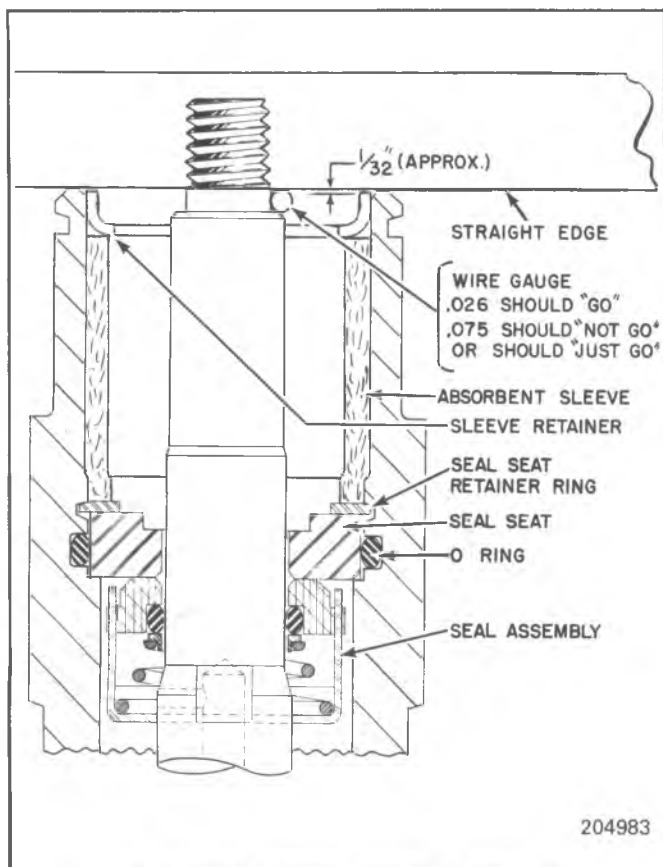

Fig. 1D-21 A-6 Compressor Shaft and Seal
4. Place Seal Protector J 22974 (Fig. 1D-20) over end of compressor shaft and carefully slide the new Seal assembly down onto the shaft. Gently twist the Installer J 9392 CLOCK-WISE, while pushing the seal assembly down the shaft until the Seal assembly engages the flats on the shaft and is seated in place. Disengage the Installer by pressing downward and twisting counter-clockwise.
5. Attach the ceramic Seal Seat to the Seal Seat Remover and Installer J 23128 and dip the ceramic Seat in clean 525 viscosity refrigerant oil to coat the seal face and outer surface. Carefully install the Seat over the compressor shaft end and Seal Protector J 22974 and push the Seat into place with a rotary motion. Take care not to dislodge the seat O-ring. However, be sure Seal Seat makes a good seal with O-ring. Remove Installer J 23128 and Seal Protector J 22974 (Fig. 1D-19).